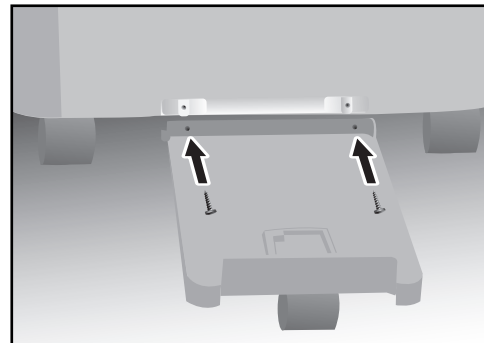

Fig.35
1. Attach the water tank support tray (with castors) to the saddle bracket located at the rear (lower section) of the unit, using the screws provided. See Fig. 35